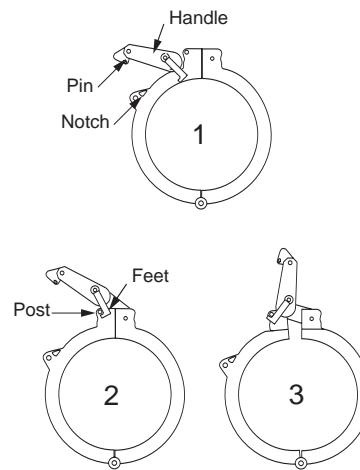

Figure 18
12. Install clamp around dome/base interface. Position feet of handle in front of the two posts and push down on the handle to pull the two halves of the clamp together. (Figure 18)